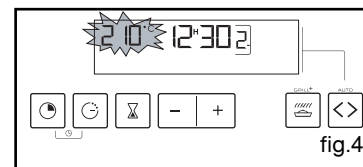

fig.4
• **Rotisserie (fig.4)**
Example: temperature reference 210°C (fig.4).
- 0:00 flashes (fig.4).
The display goes back to showing the time of day by moving the function selector back to 0 (fig.4).